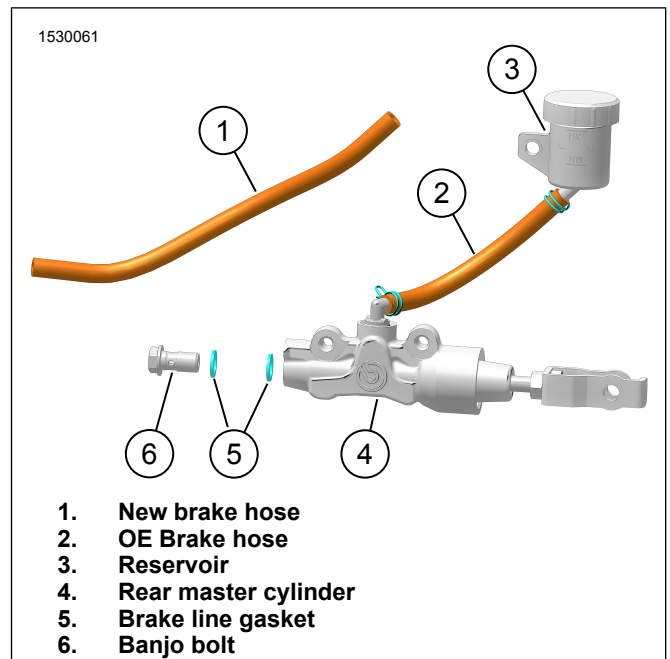

Figure 2. Rear Master Cylinder
7. See Figure 2. Replace rear master cylinder brake hose.
a. Remove OE brake hose (2) and discard.
c. Install new brake hose (1) from kit.